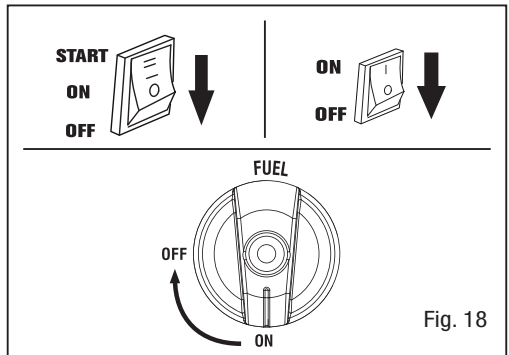

Fig. 18
3. Turn the ENGINE switch to the "OFF" position (Fig. 18).
4. Turn the FUEL switch to the "OFF" position (Fig. 18).